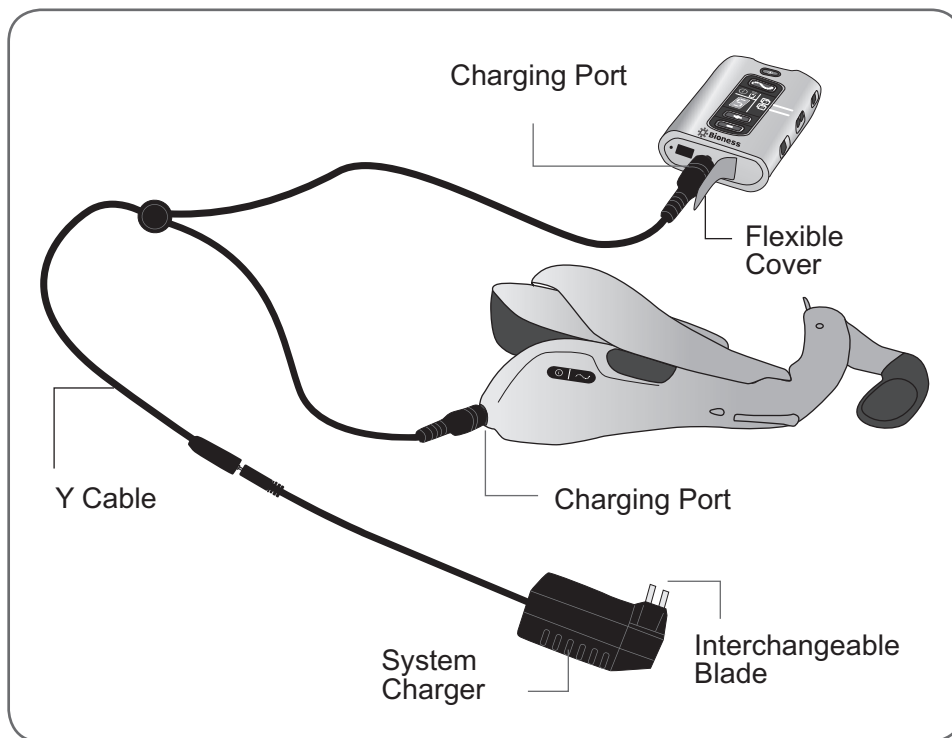

Figure 8-3: Charging setup.
3. Connect the Y cable to the charging ports of the Orthosis and Control Unit. The Control Unit charging port is under the flexible cover. See Figure 8-3.